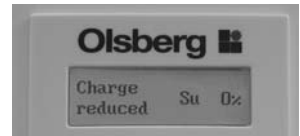

Fig.24
- You can carry out settings manually by pressing 'OK'. The 'Day' menu item, and the associated charge level reduction, will appear (Fig. 24). You can set the day using the + or – buttons, confirm using 'OK', and then define the associated charge level reduction using + or – (from 0 to 70%). Confirm this pair of values using 'OK'. You can then define further days of the week and the associated reductions.